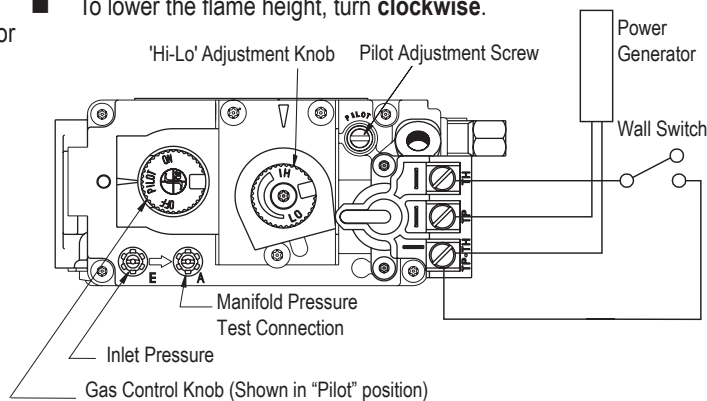

Figure 28. 'Hi-Lo' Adjustment on the SIT Nova 820 gas valve.
The H*38DF*ST is equipped with an adjustable burner, allowing you to raise or lower the flames. To adjust the flames, locate the black knob marked 'Hi-Lo', in the centre of the gas control valve (See **Figure 28**).
1. Locate Pilot Adjustment Screw. (See **figure 28 or 29**.)
Pilot won't ignite	Disconnect remote wires and try to light pilot. If pilot now works, remote connections are faulty. Check wiring diagram figure 28 .
Main burner will not light	1. Check wiring (see figure 28). 2. Check wall switch for proper connection.